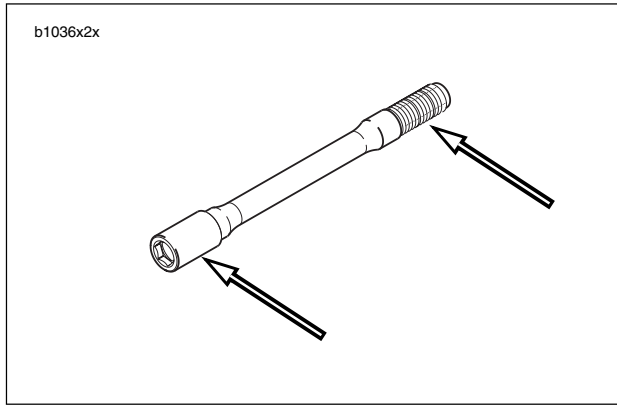

Figure 6-100. Anti-Seize Lubricant Location
14. See Figure 6-100. Coat the axle with ANTI-SEIZE LUBRICANT.